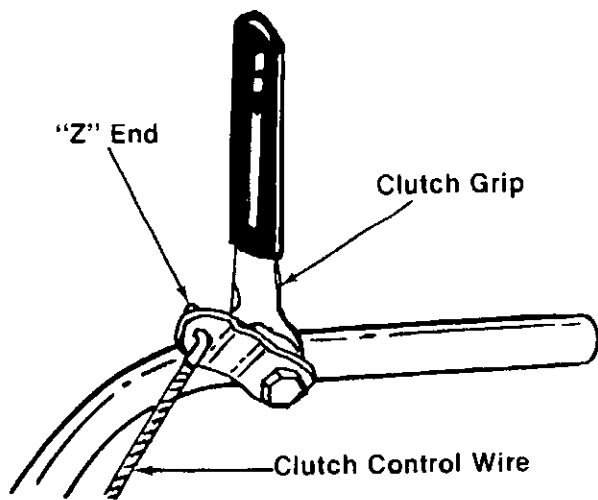

FIGURE 16.
18. Hook the "Z" end of clutch cable wire into clutch grip. See figure 16.